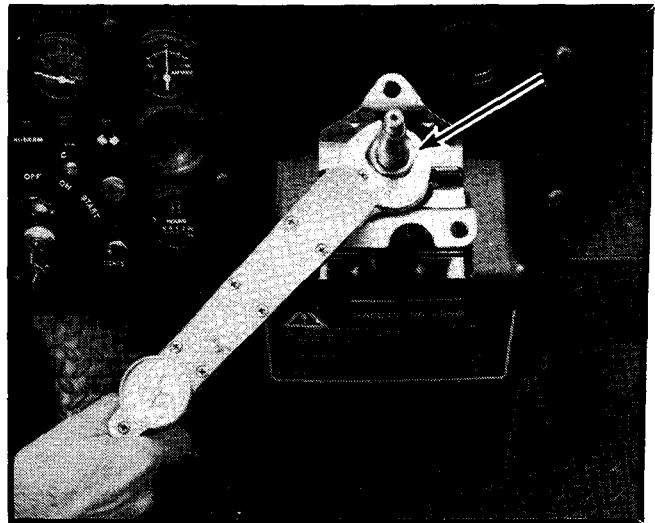

Figure 8.
- Tighten the jam nut to 15 lbs. ft. (20 N·m) torque. Hold this nut to keep it from turning and tighten the locking nut to 91 lbs. ft (120 N·m) minimum, 109 lbs. ft. (150 N·m) maximum torque. See Figure 8.